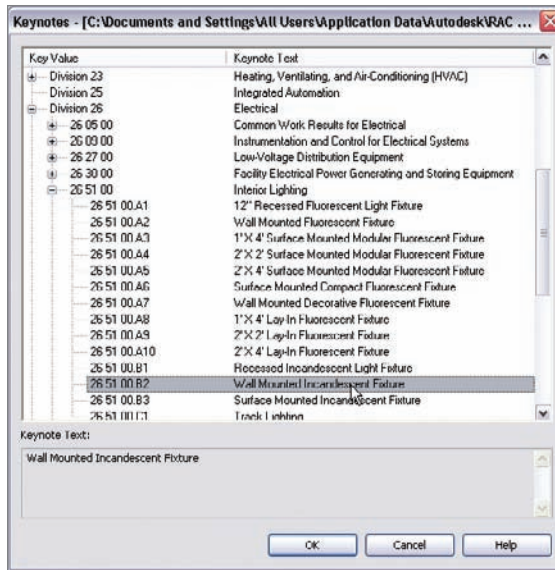

FIGURE 11.95 Selecting the proper keynote value for the sconce
After you pick the third point, Revit will provide you with the Keynotes menu shown in Figure 11.95. Follow these steps to place the keynote value into the sconce family:
3. Go to group 26 51 00.B2 Wall Mounted Incandescent Fixture, as shown in Figure 11.95.